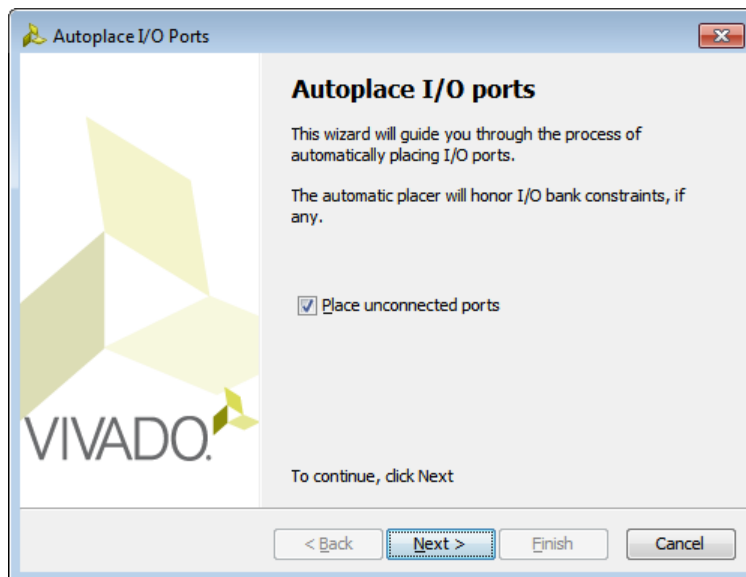

Figure 27: Autoplace I/O Ports
2. As seen in Figure 27, check the **Place unconnected ports** checkbox, and click **Next**.